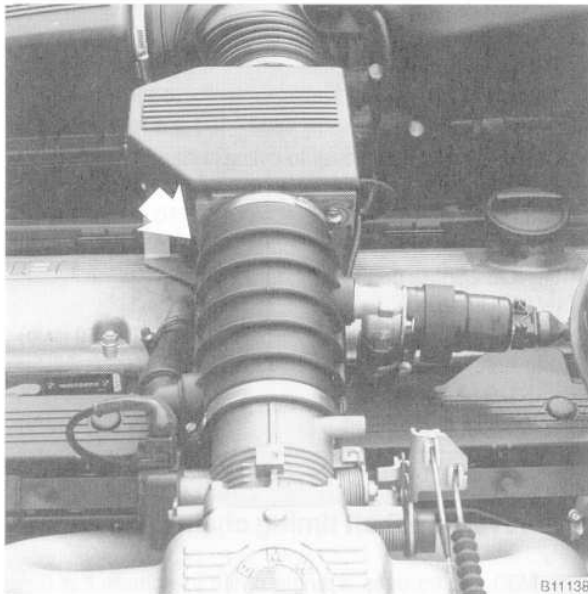

Fig. 22. Intake air boot to be removed (arrow).
- Loosen the intake air boot hose clamps at the intake manifold, the air flow sensor, and the air cleaner. Remove the boots while disconnecting any hoses or fittings in the boots. See Fig. 22.